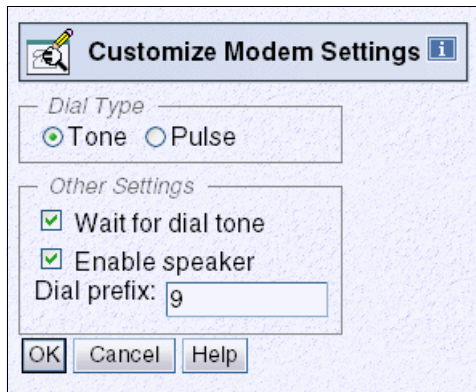

Figure 7-2 Customize Modem Settings panel
4. Click the **Modem Configuration** button. The Customize Modem Settings dialog allows you to specify tone or pulse dialing, Wait for dial tone, Enable speaker, and Dial prefix (Figure 7-2). Make the appropriate selections and click **OK**.